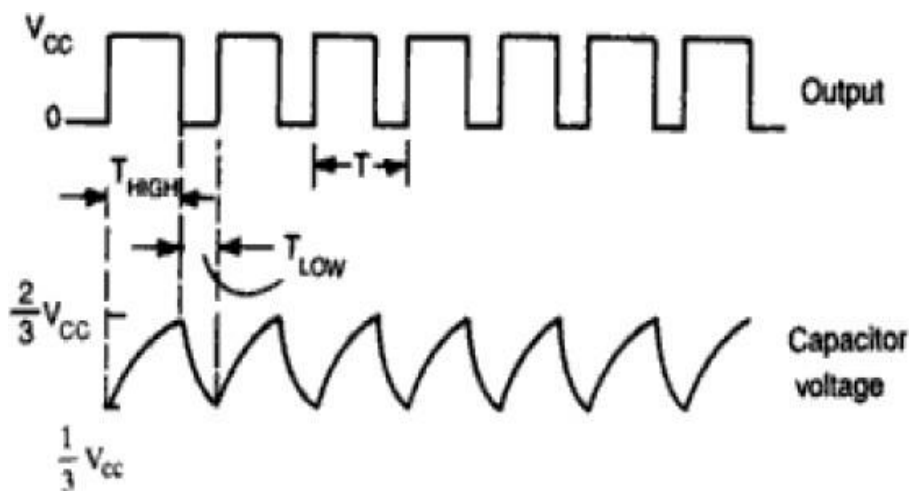

Fig. 8.17 Timing sequence of astable multivibrator
- Figure 8.17 shows the timing sequence and capacitor voltage waveform.